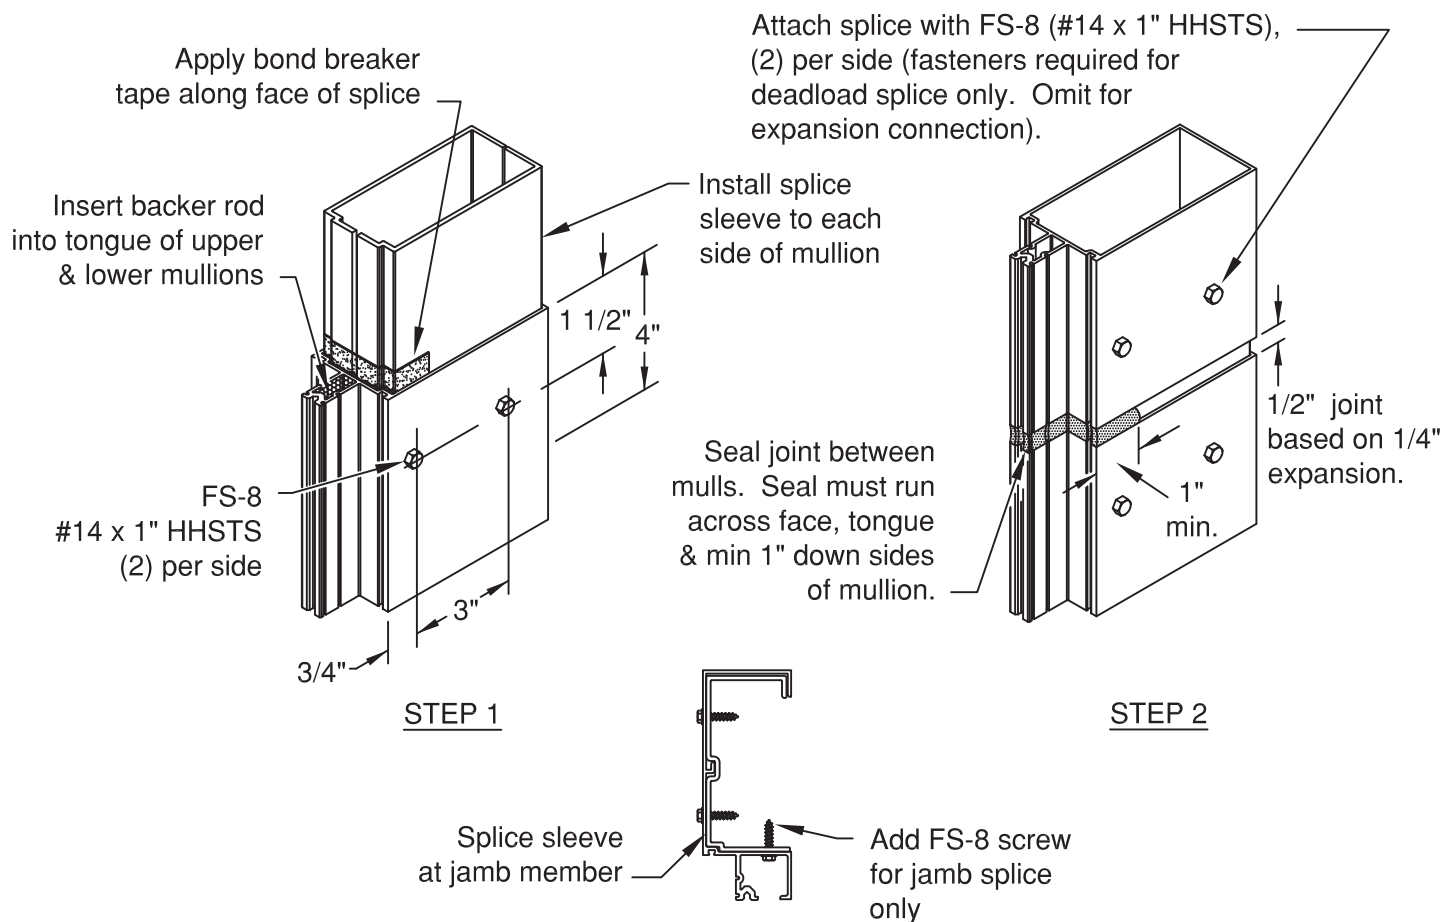

Figure 7
- 2.1.14 Install the next vertical above, temporarily shimming between verticals to maintain proper splice joints (refer to approved shop drawings). **SEE FIGURE 7.**